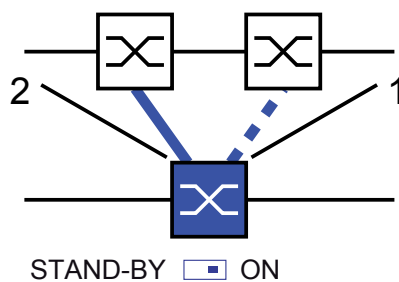

Figure 24: One-Switch-coupling
- Select "One-Switch coupling" by means of the dialog button with the same graphic as below (see figure 24).